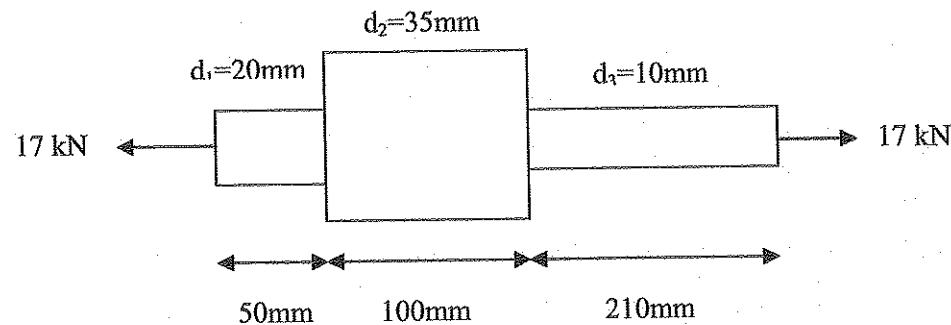

Figure A1(c) / Rajah A1(c)
- (c) A copper bar as shown in Figure A1(c), has been imposed to 17kN tensile load.